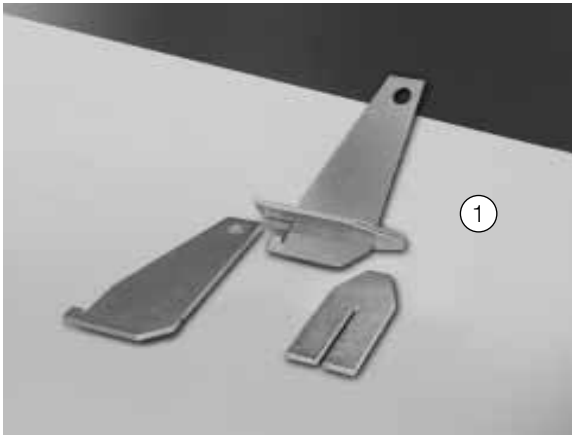

Fig. 2c
- Attach the tools (1) to lift and handle the circuit-breaker (fig. 2c);